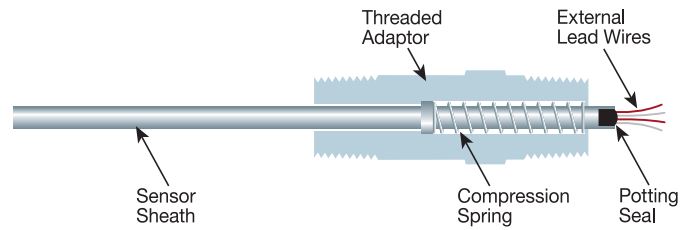
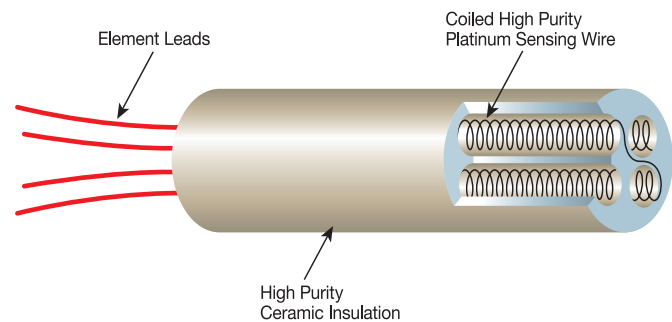

Figure 4-14: Spring-Loaded Threaded Style
Figure 4-15: Coiled Suspension RTD Sensor
- A spring-loaded thin-film design is almost always the best choice for fastest time response and least susceptibility to vibration. See Figure 4-14. However, some designs of helical style wire wound elements are another good choice. See Figure 4-15.